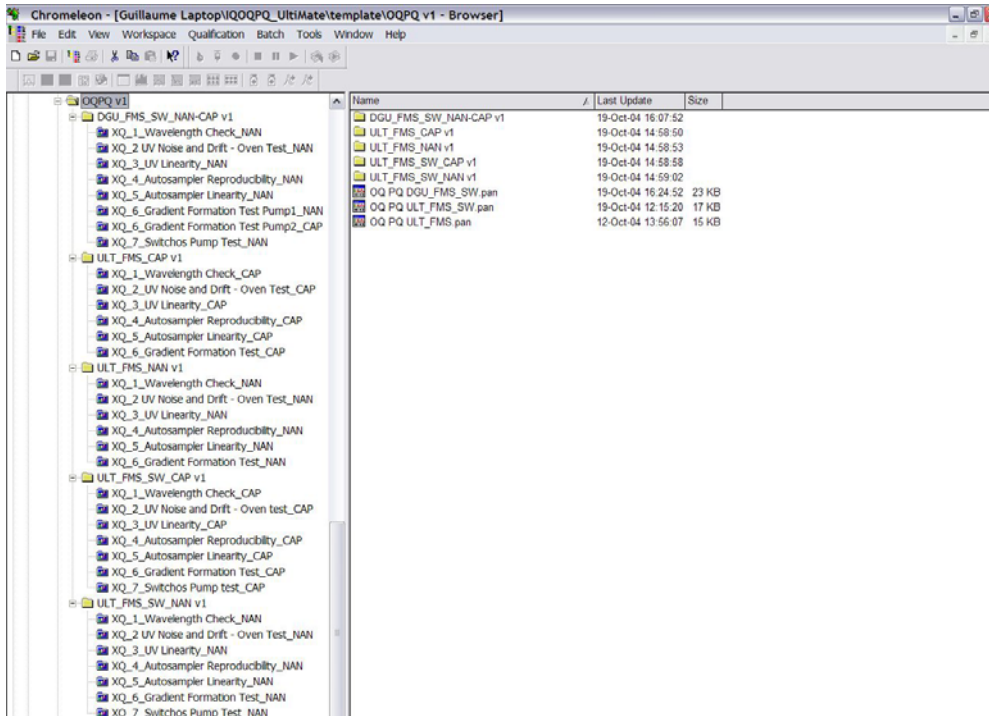

FIGURE 3-1 OQ/PQ Programs after Restoring
- a) Restore the CHROMELEON backup file from the CD ROM. All programs and sequences are now available for the test procedures (FIGURE 3-1).